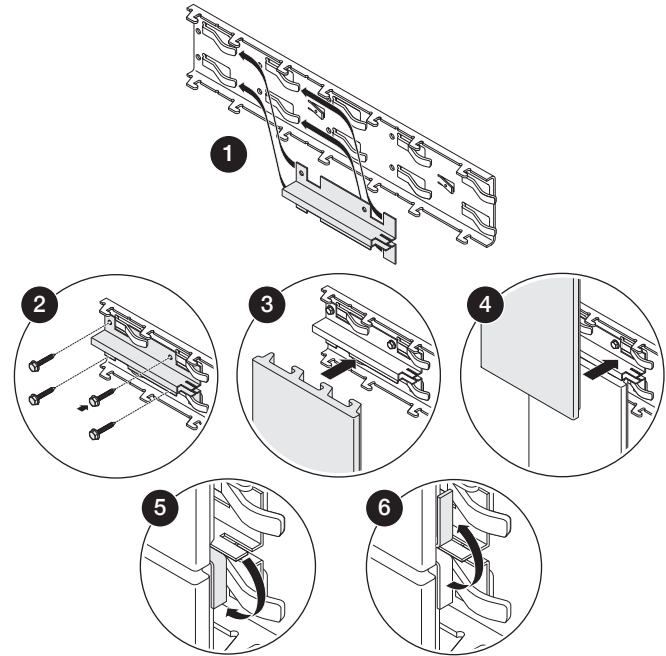

FIG. V10
12. Once a panel is attached, bend the end of the joint spacer with pliers up or down to trap the panel in place. (FIG. V10)